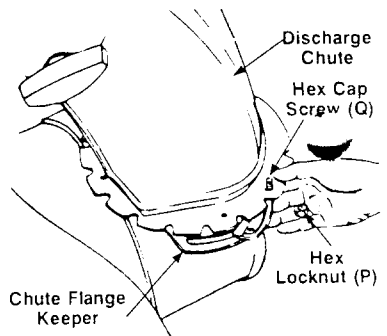

FIGURE 5
shown in figure 5. Secure with hex locknuts (P). Do not over tighten.